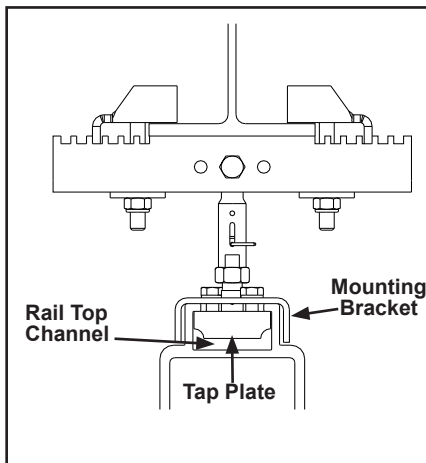
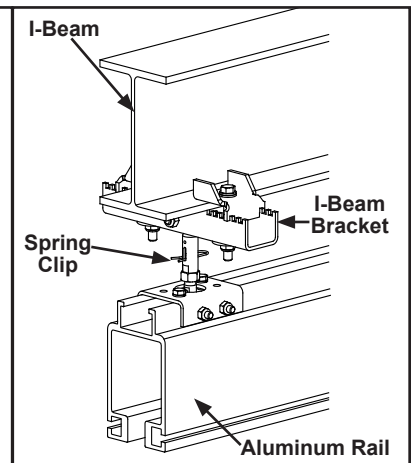

Figure 3-53
Figure 3-55
- Step 1. Remove cross bolts. Slide rail mounting bracket on top of bracket channel and tap plate into bracket channel at top of runway rail. Position per system layout. See Figure 3-53 through Figure 3-55.